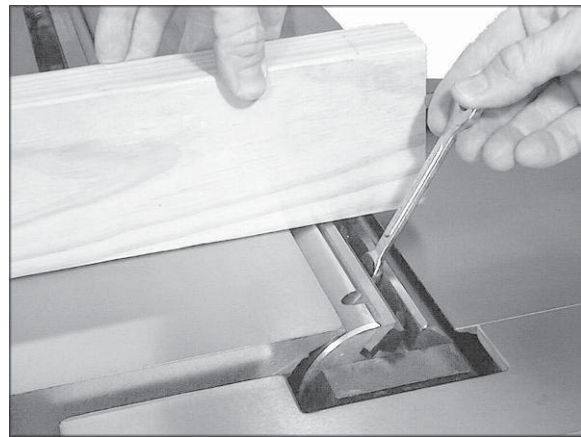

Figure 32 (straight cutterhead)
16. Use the edge of a board to push the knife back down so that it is flush against the jack screws. See Figure 32. Tighten the gib screws only enough to keep the knife in position in the cutterhead. Do not fully tighten.